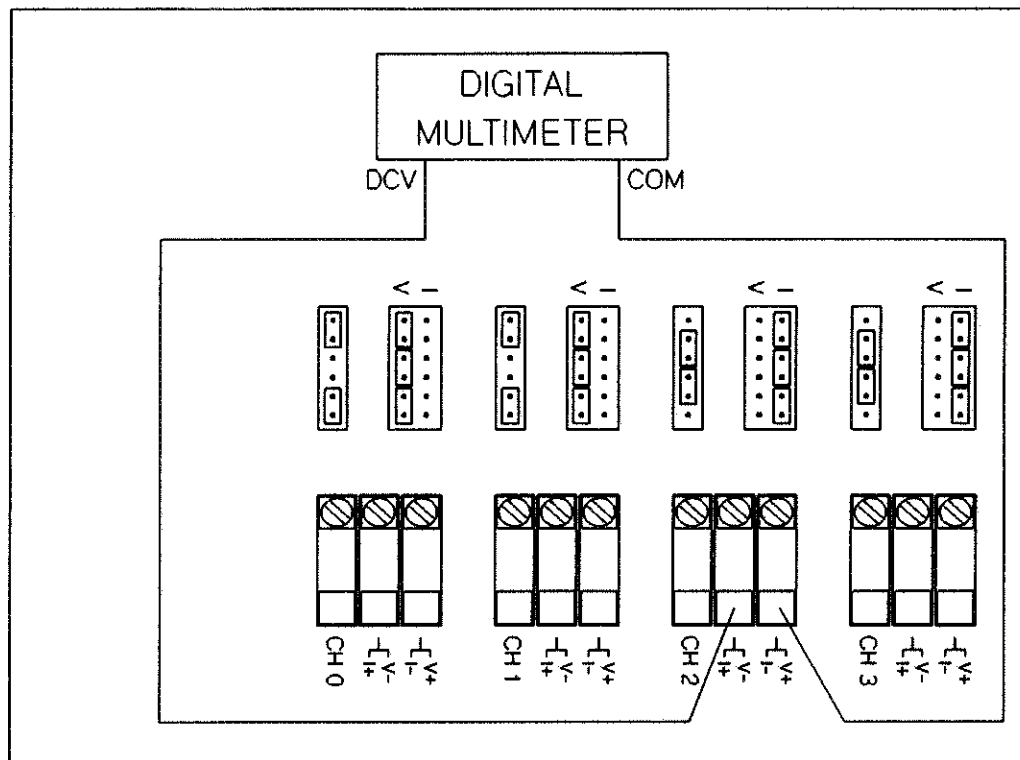

Figure 15-8 HP 44727A/B/C Current Channel Test
2. Set the multimeter to measure dc volts. On the test fixture, connect the multimeter DCV input to the I+ connection and connect the COM input to the I- connection of the channel to be tested. The connections are shown in Figure 15-8.